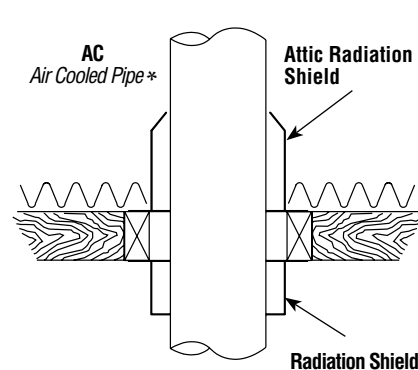

Figure 24b
5. From below, install a firestop (see **Figure 24b**).